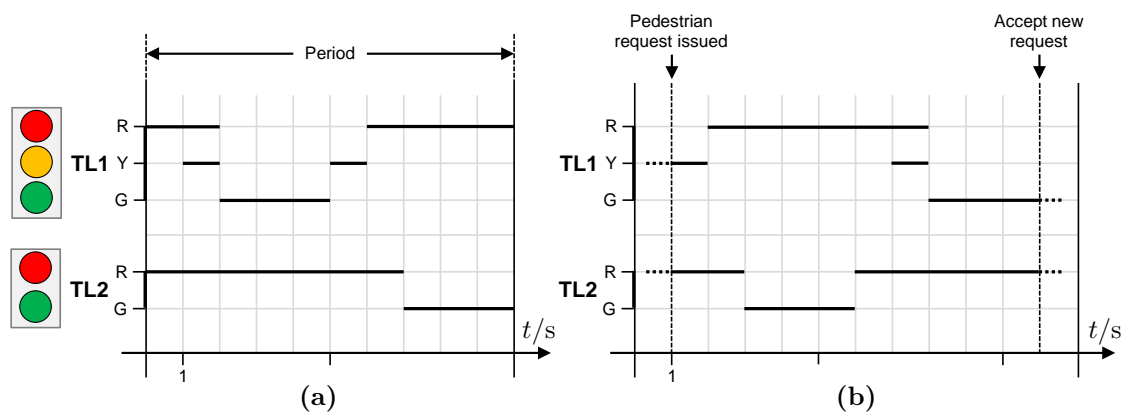

Figure 2: Traffic Light Timing Diagram; (a) Day Mode, (b) Night Mode
- Calculate the desired traffic light phase, which can be determined by inspecting the timing diagram for the respective day/night mode (compare Figure 2 on page 7) at the time of the `second` member of the `timePacket_t` structure modulus 10.